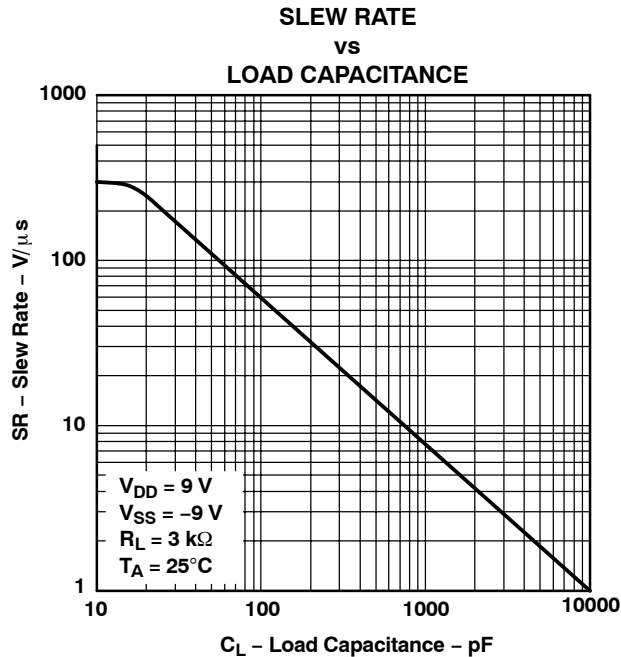

Figure 10.
- (1) See Figure 10 to select the correct values for the loading capacitors (C1, C2, and C3), which are required to meet the RS-232 maximum slew-rate requirement of 30 V/ $\mu$ s. The value of the loading capacitors required depends on the line length and desired slew rate, but typically is 330 pF.